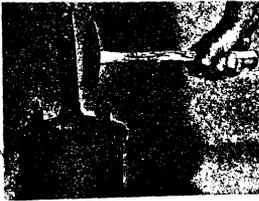

FIGURE 17
8.12 When the compound has gelled, remove the No. 4 valve assembly by tightening the locking adapter of the special adapter fitting with a wrench until the nylon locking sleeve bulges and becomes loose. Pull out the special adapter fitting and insert a metal plug into the hole by tapping it with a hammer. Repeat this step for the removal of the No. 5 valve assembly. (See Figure 17)